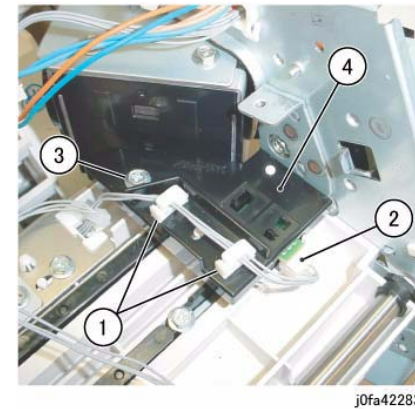

Figure 3 Removing the Rear Tamper Home Sensor Assembly
10. Remove the Rear Tamper Home Sensor Assembly (Figure 3):